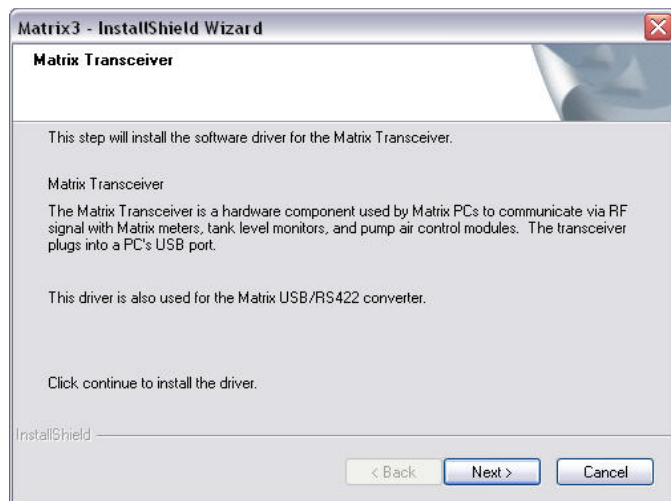

FIG. 23
13. The system configures the Matrix Database. When the Matrix Transceiver screen shown in FIG. 23 displays, select NEXT to start the Transceiver Driver installation.